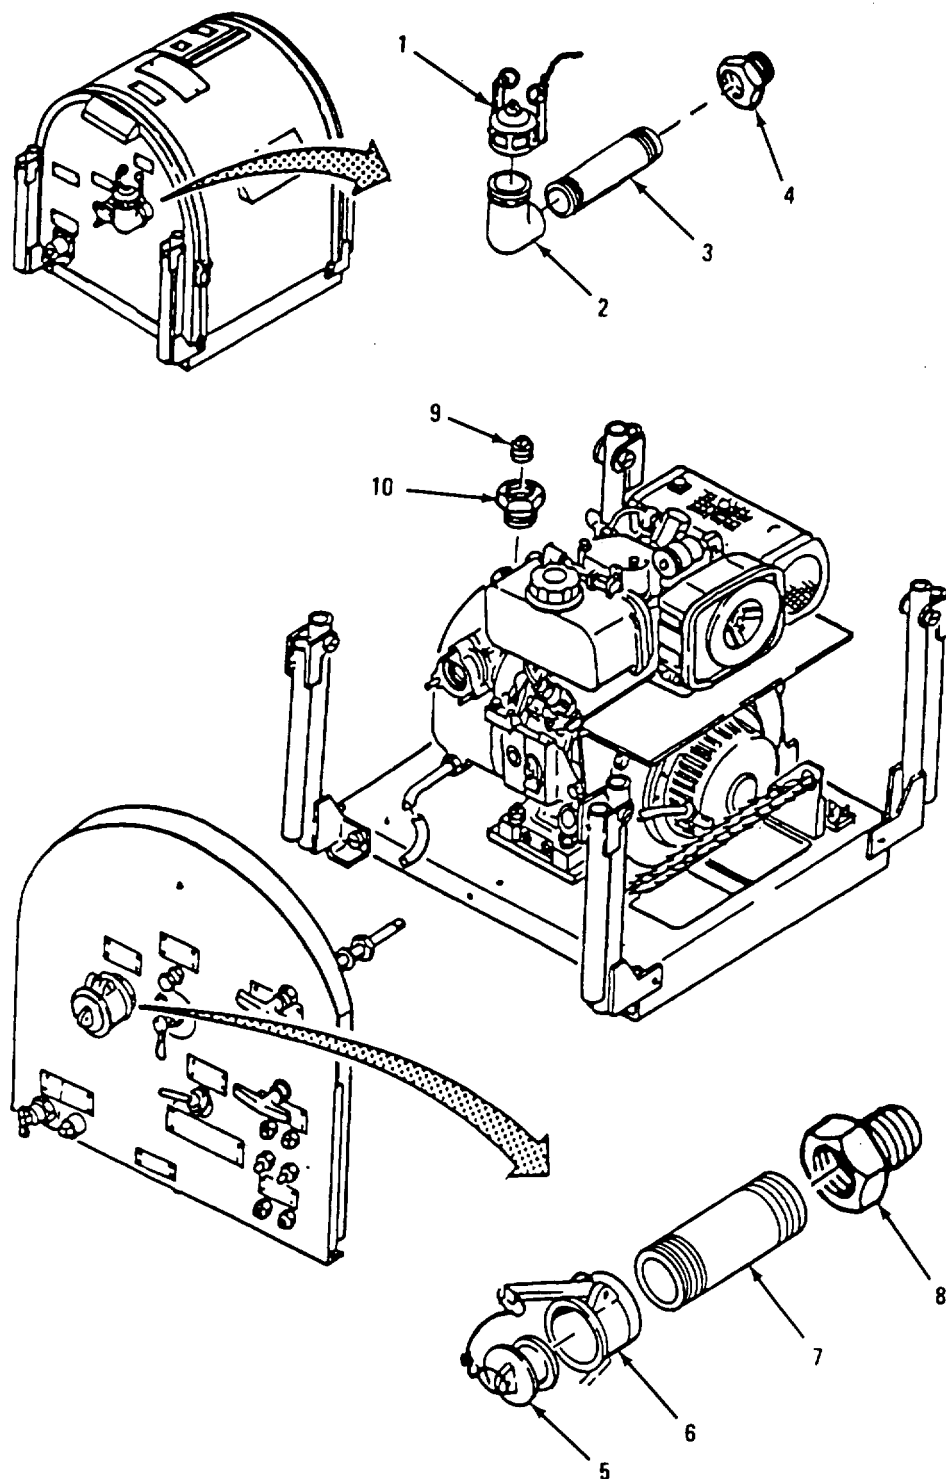

Figure 4-18. Suction and Discharge Piping
a. Inspection. (Refer to Figure 4-18)